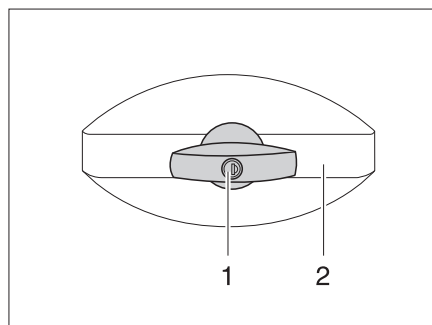

Fig. 30 Flap lock, elliptical, locked
- Insert the key into the locking cylinder (Bild 30,1) and turn a quarter turn anticlockwise. Lock handle (Bild 30,2) is released.